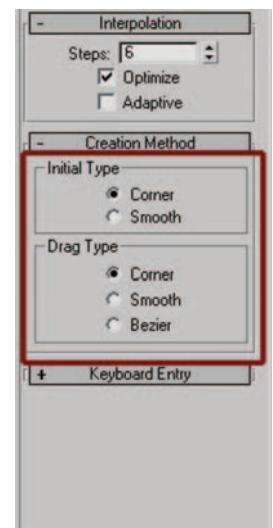

Figure 2.9 *Creation Method dialog box.*
1. Click in the front viewport to activate it. In the Create panel we are going to select Line and change both the Initial Type and the Drag Type to Corner (Figure 2.9). For this exercise this configuration will give the best results with the least amount of effort.